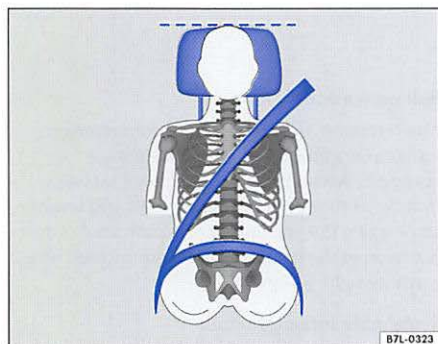

Fig. 13 Head restraint and safety belt position as seen from the front
- The safety belt must lie flat and snug on the occupant's upper body ⇒page 20, fig. 13.